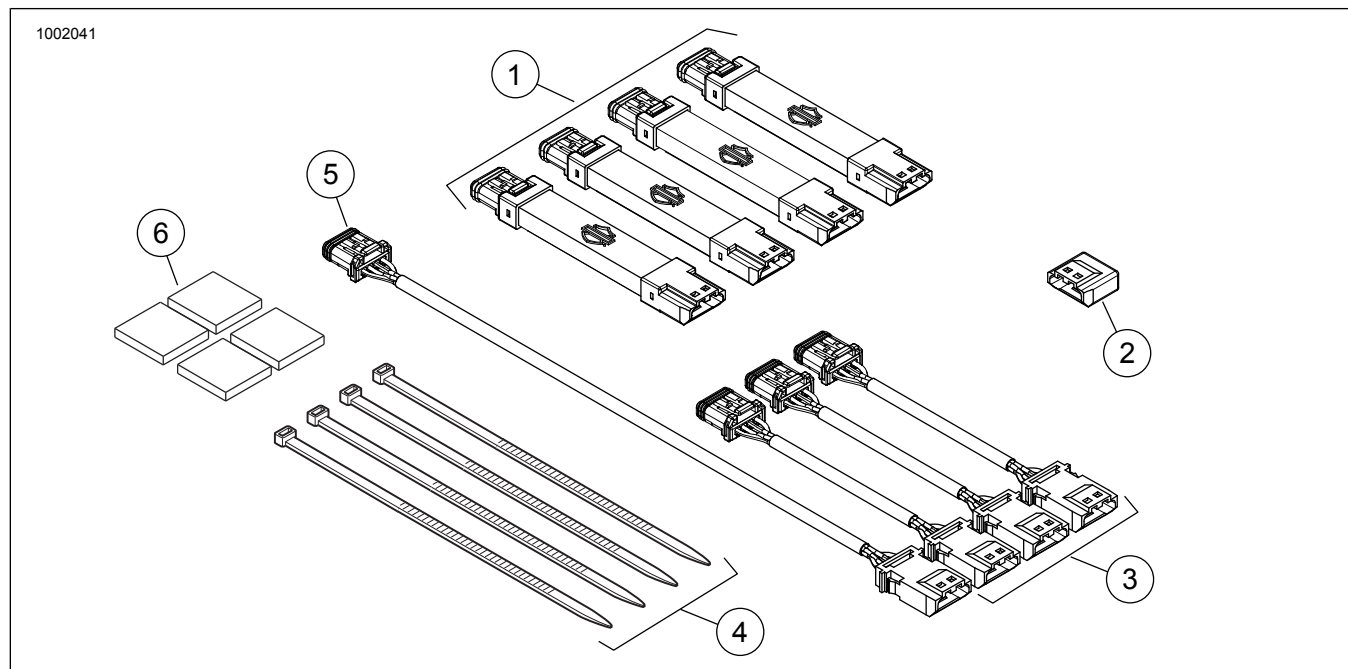

Figure 2. Service Parts, Spectra Glo Light Pod Kits
Figure 2 and Table 1.
2. Figure 2 Assemble (dry fit) light pods (1) and harnesses (3 and 5) in desired configuration.